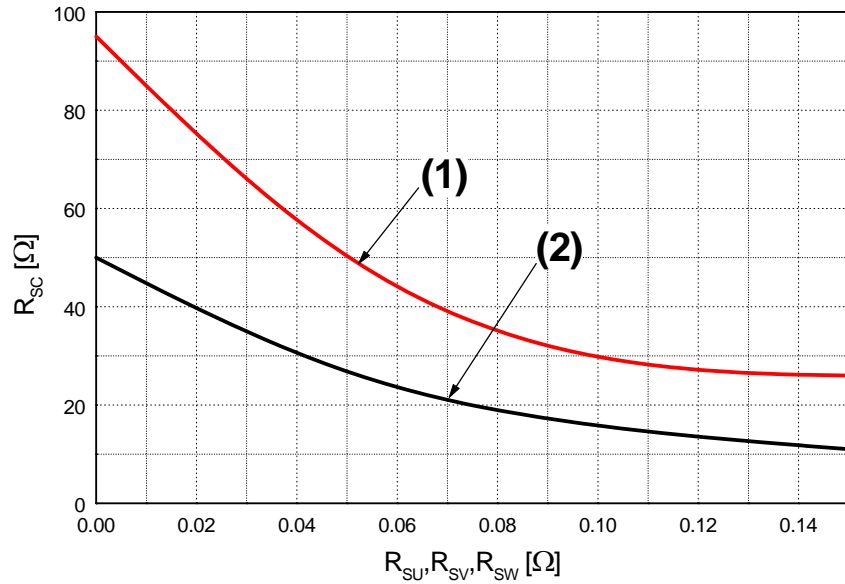

Figure 6. R_{sc} Variation by Change of Shunt Resistors (R_{su}, R_{sv}, R_{sw}) for Short-Circuit Protection
- Short-circuit protection is functioning only at the low-sides. It would be recommended that the value of the external sensing resistor (R_{SC}) should be selected around 50 Ω in order to make the SC trip-level of about 15A. at the shunt resistors (R_{SU}, R_{SV}, R_{SW}) of 0 Ω. For the detailed information about the relationship between the external sensing resistor (R_{SC}) and the shunt resistors (R_{SU}, R_{SV}, R_{SW}), please see Figure 6.